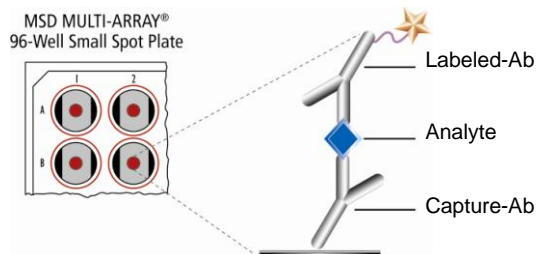

Figure 1. Sandwich immunoassay on MSD platform. A unique bar code label on each plate allows complete traceability back to MSD manufacturing records.
MSD[®] toxicology assays provide a rapid and convenient method for measuring the levels of protein targets within a single small-volume sample. The assays are available in both singleplex and multiplex formats. In a singleplex assay, an antibody for a specific protein target is coated on one electrode (or “spot”) per well. In a multiplex assay, an array of capture antibodies against different targets is patterned on distinct spots in the same well. Our Human Luteinizing Hormone (LH) Assay detects luteinizing hormone in a sandwich immunoassay (Figure 1). MSD provides a plate that has been pre-coated with luteinizing hormone antibody. The user adds the sample and a solution containing the labeled detection antibody—Anti-hLuteinizing Hormone (LH) labeled with an electrochemiluminescent compound, MSD SULFO-TAG[™] label—over the course of one or more incubation periods. Luteinizing hormone in the sample binds to capture antibody immobilized on the working electrode surface; recruitment of the labeled detection antibody by bound analyte completes the sandwich. The user adds an MSD read buffer that provides the appropriate chemical environment for electrochemiluminescence and loads the plate into an MSD SECTOR[®] instrument for analysis. Inside the SECTOR instrument, a voltage applied to the plate electrodes causes the labels bound to the electrode surface to emit light. The instrument measures intensity of emitted light to afford a quantitative measure of luteinizing hormone present in the sample.
This plate has been pre-coated with antibody as shown in Figure 1. The plate can be used as delivered; no additional preparation (e.g., pre-wetting) is required. The plate has also been exposed to a proprietary stabilizing treatment to ensure the integrity and stability of the immobilized antibodies.